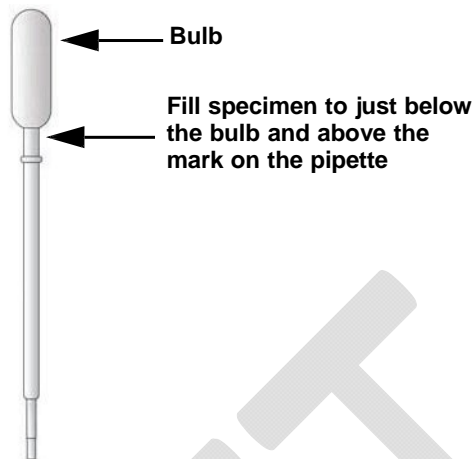
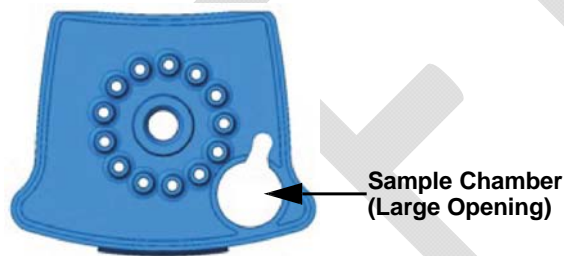

Figure 1. HIV-1 VL Assay Transfer Pipette
Figure 2. HIV-1 VL Cartridge (Top View)
- **Option 1:** If using the transfer pipette included in the kit (Figure 1), fill to just below the bulb but above the line to transfer at least 1 mL plasma from the collection tube into the sample chamber of the test cartridge (Figure 2). Do **NOT** pour the specimen into the chamber!
- **Option 2:** If using an automatic pipette, transfer at least 1 mL of plasma into the sample chamber of the test cartridge (Figure 2). Do **NOT** pour the specimen into the chamber!